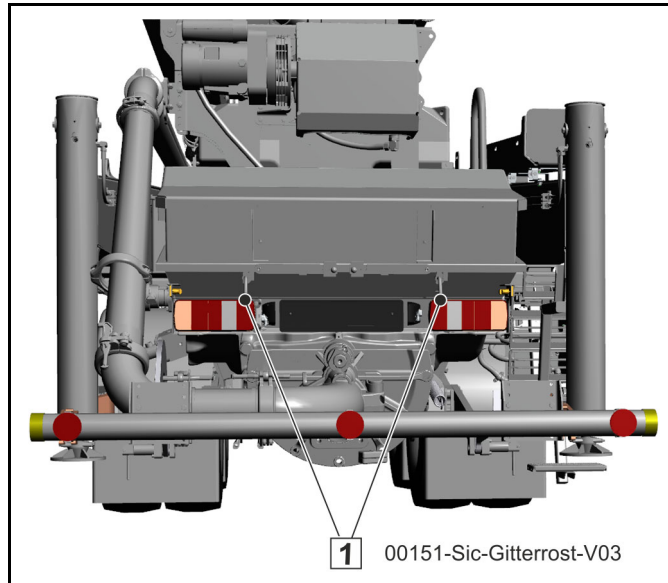

Fig. 50 Hopper grate safety device
- Check the lock (5) of the hopper grate in the concrete feeding hopper (**Fig. 50**).